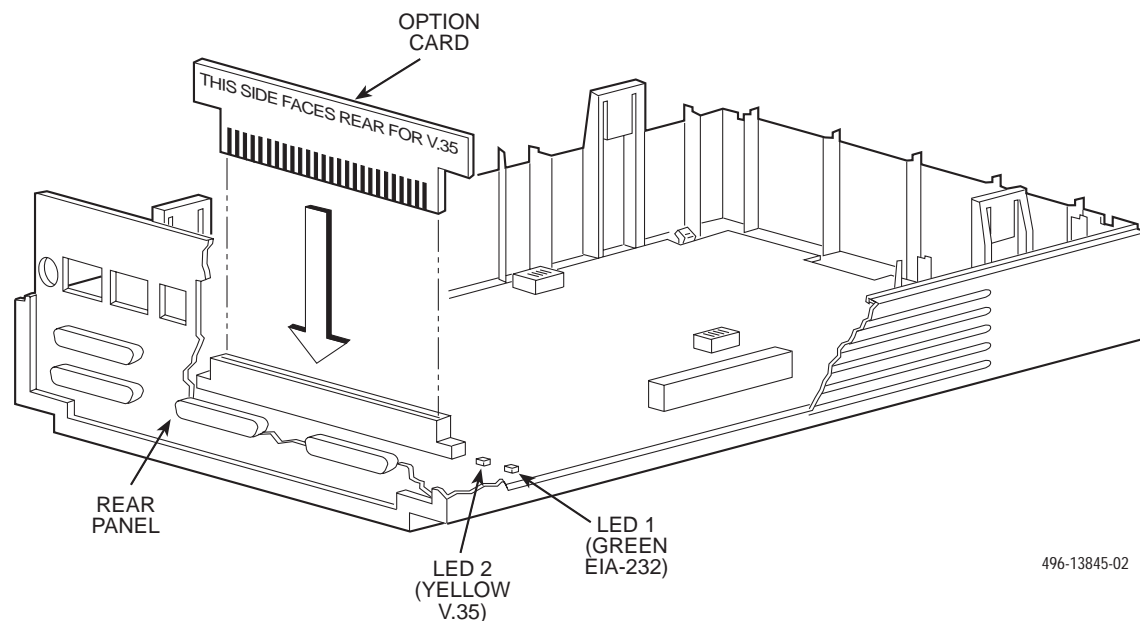

Figure 2-6. Changing TDM/DSD or MCMP/DSD Interface Compatibility
1. Gently work the option card free of its connector (refer to Figure 2-6).